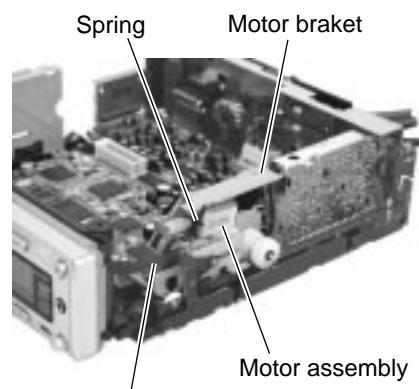

Fig.8
■ Removing the motor assembly (See Fig.8 to 10)
- Remove the motor bracket and the spring attached to the arm braket assembly (R).